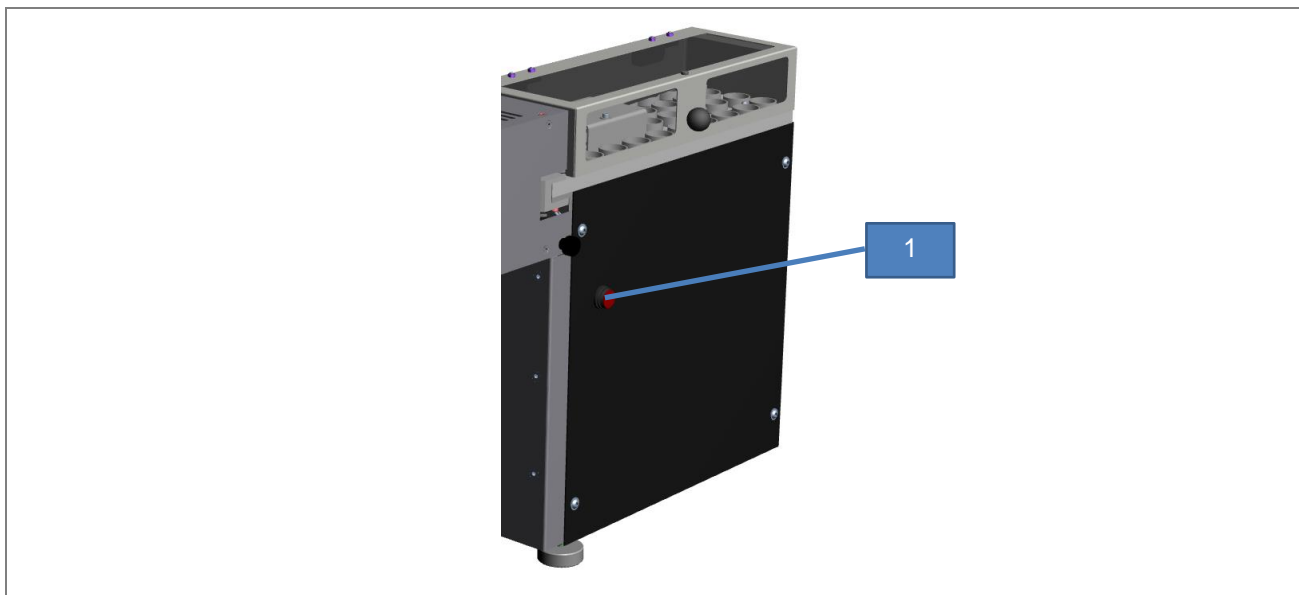

Fig. 5: CSi/d main switch
2. Press the main switch (1) on the CSi/d Autoloader (see Fig. 5: CSi/d main switch)